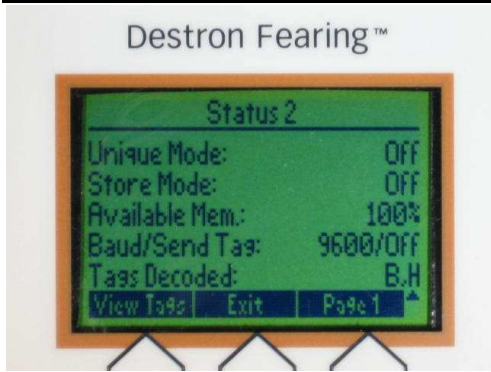

FIG. 18: Status 2 Screen
3. Pressing the PAGE 2 Key displays the Status 2 Screen showing additional status information on the Reader. See Fig. 18.